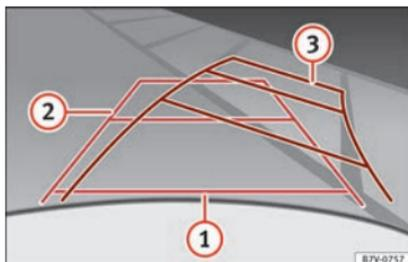

Fig. 216 Display: orientation lines for the parking space behind the vehicle
Meaning of orientation lines displayed on the screen » **Fig. 216**. All of the lengths of the orientation lines use a vehicle located on a horizontal surface as reference.
- Reverse slowly and turn the steering wheel so that the yellow orientation lines guide you towards the space » **Fig. 216** ❸.